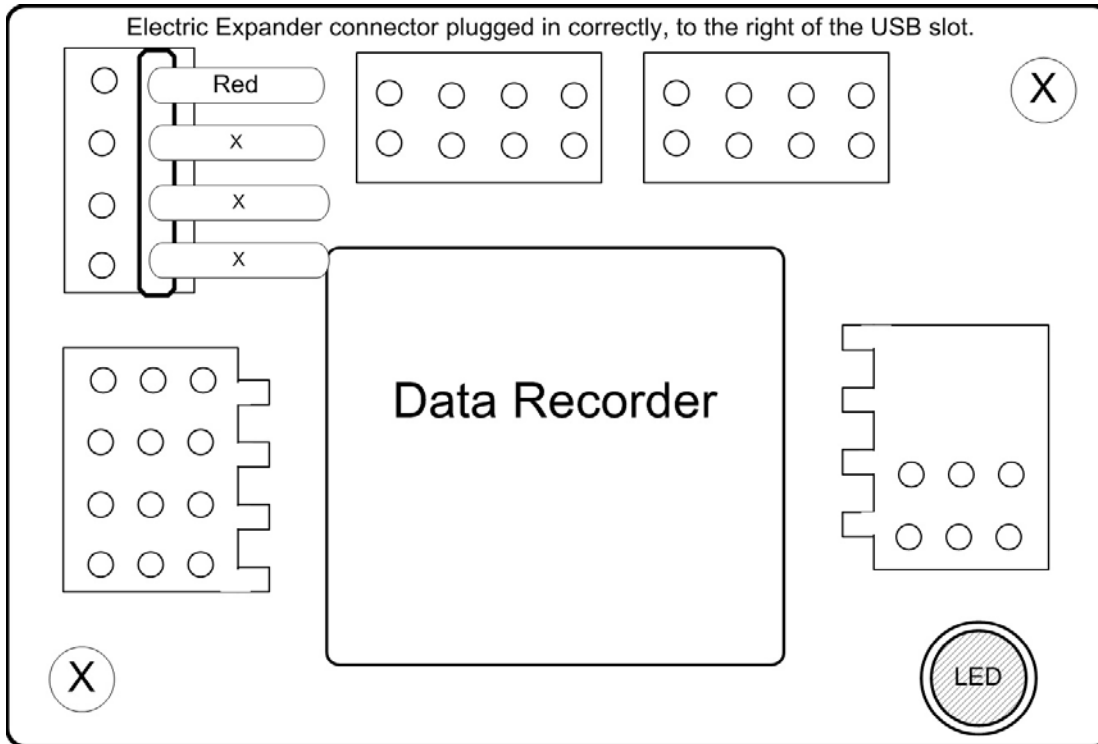

Figure 1
***EXTREMELY IMPORTANT:*** The Electric Expander Connector **\*\*MUST\*\*** be connected correctly to your Recorder, or severe damage to the Recorder will occur. The Expander connects as shown in Figure 1, to the right of the USB connector, with the RED wire of the connector facing UP. If you are uncertain as to how to connect the expander, don't hesitate to email us!
The expander plugs into the Data Recorder as shown in Figure 1. Make sure that you connect it in the correct location on the recorder, and with the correct polarity!